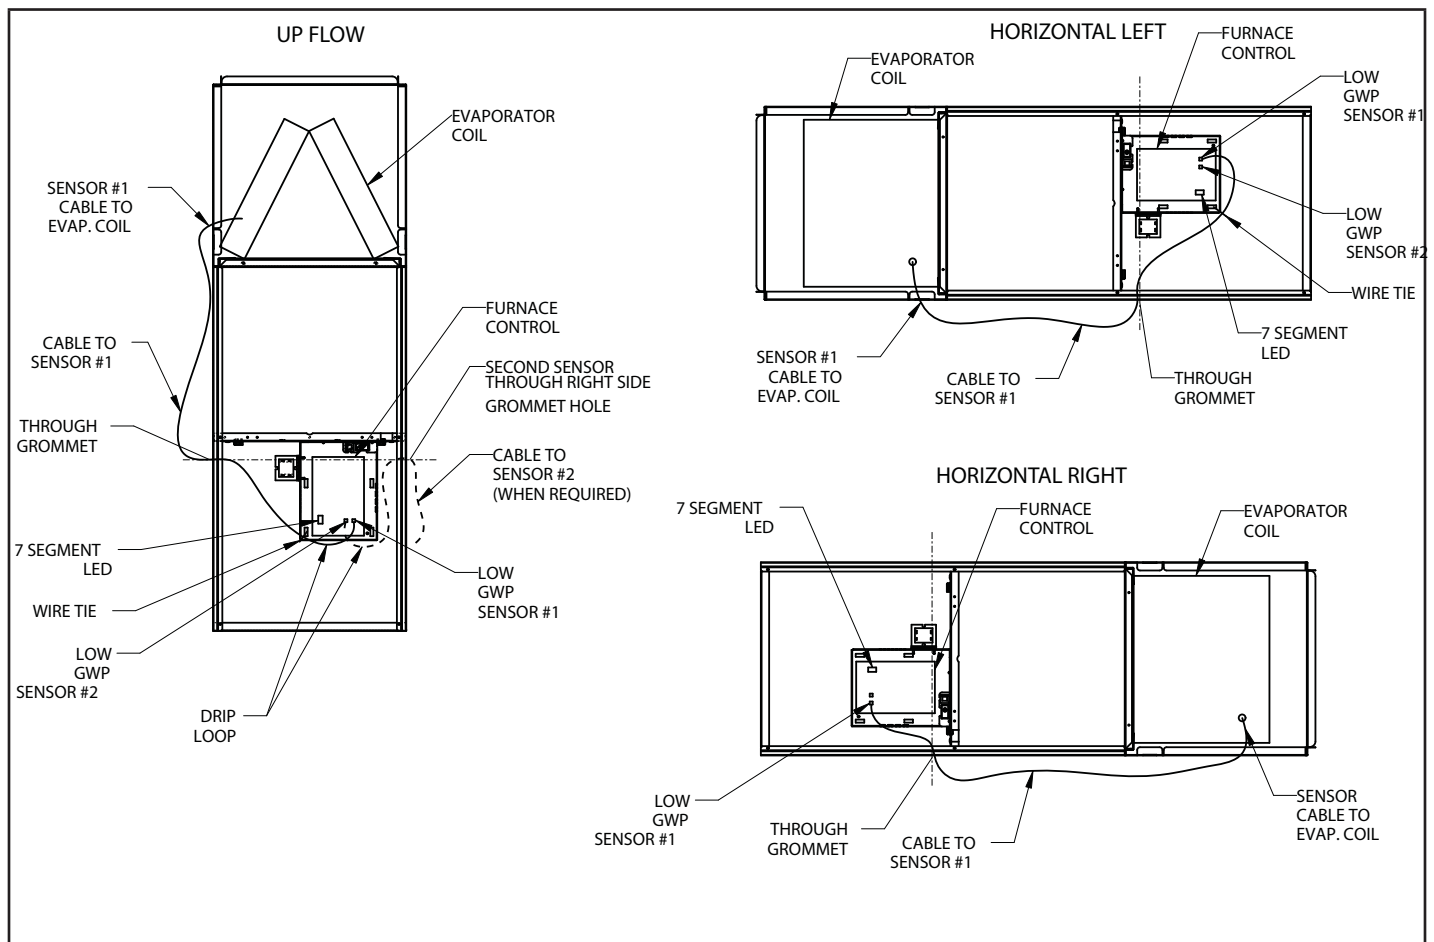

Figure 74
See Figure 74
6. Move gas valve switch to OFF. See Figure 74.
8. Move gas valve switch to ON. See Figure 74.